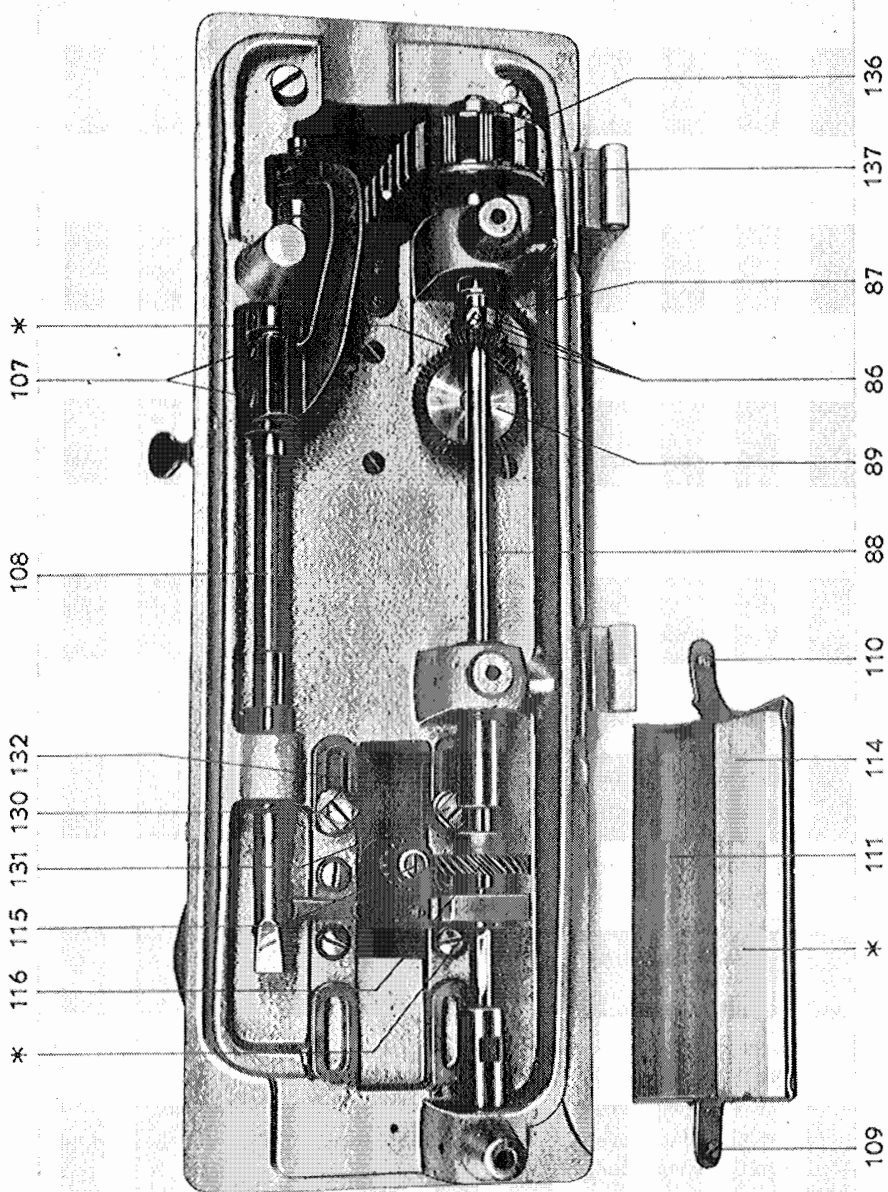

Fig. 22
For timing this movement, loosen screws 86 (fig. 22) and turn bevel wheel 87 on the lower shaft 88.
Adjusting the feed dog in the longitudinal direction according to the needle. (Adjust first the needle as described under 14). The needle should stitch in the centre of the feed dog stitch hole. To effect the adjustment loosen screws 107 (fig. 22) and turn shaft 108.
1. Remove screws 109 and 110 (fig. 22) and take off oil drip pan 111.
The lateral distance between the hook and the needle should amount to 0.1 mm. For accurate adjustment of this distance loosen both fastening screws 130 and 131 (fig. 22) and shift hook support 132 to the right or to the left, as required. In case of a major rectification of the position of the hook support, displace correspondingly gear wheel 116 located on the hook driving shaft. Following this adjustment, rectify the position of the hook according to chapter 23.
1. Slip belt 136 (fig. 22) off the lower belt pulley 137 to the right.